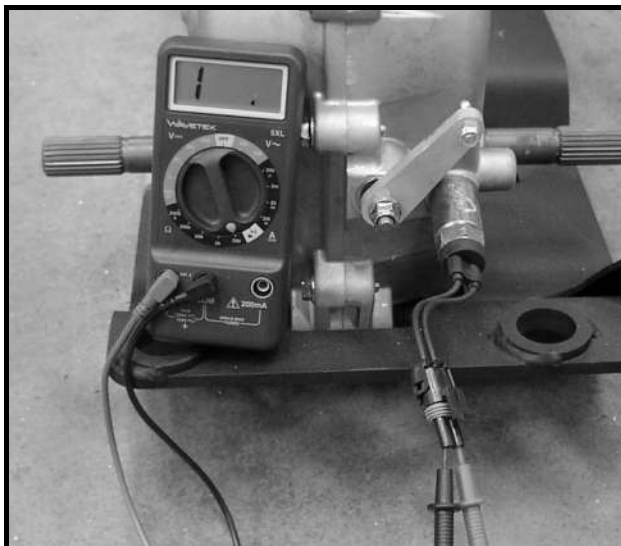

Figure 11a-20 Neutral Switch – Reverse Position
5. Check for continuity on the switch contacts with the Forward/Reverse handle in the NEUTRAL position (**Figure 11a-19, Page 11a-24**). The multimeter should indicate continuity.